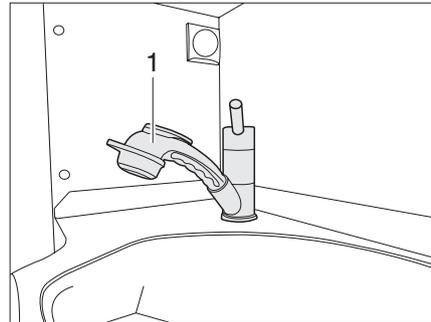

Fig. 102 Shower handset
- ▶ Pull out the shower handset (Fig. 102,1) and let it drain.
- ▶ Use the shower handset (Fig. 102,1) to shower. Pull out the shower handset to do so.